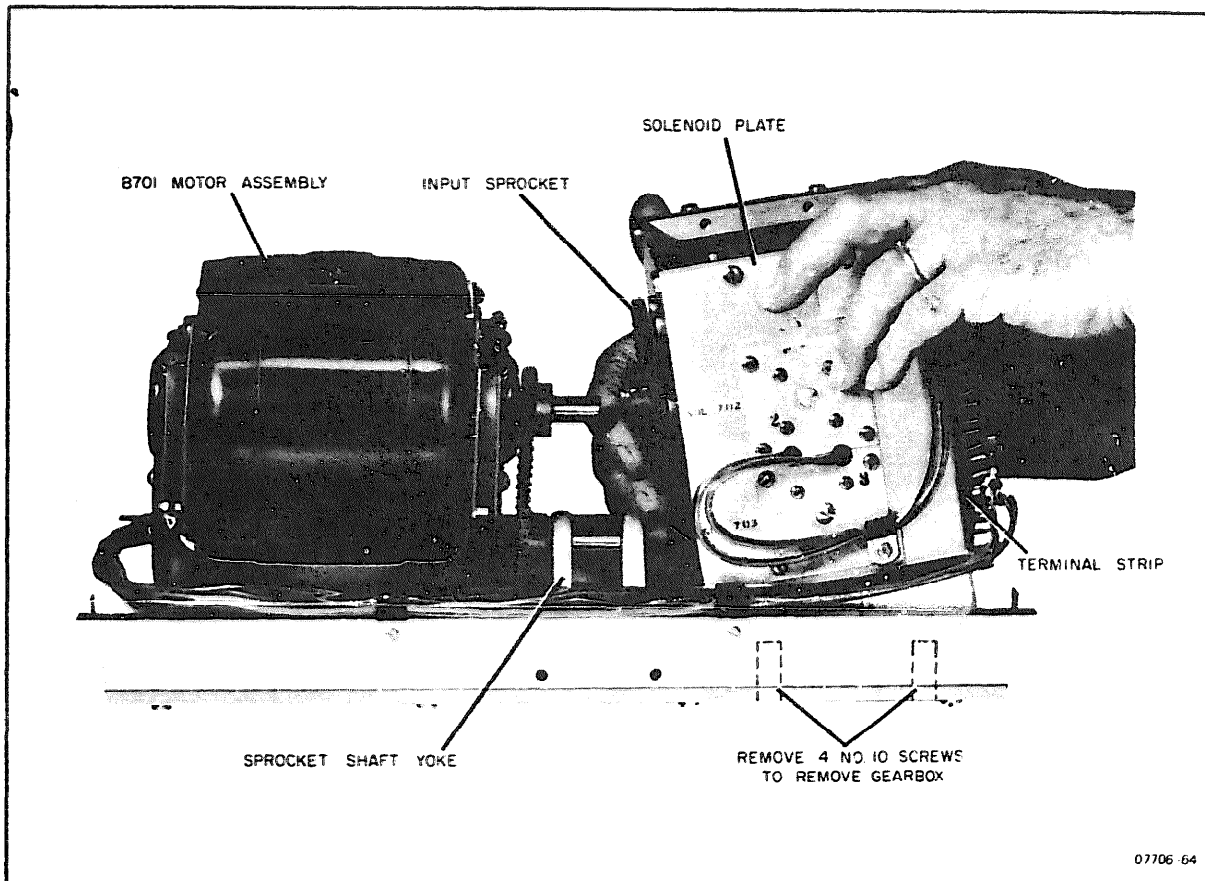

Figure 5-12. Removing Gear Box From Base Plate
- c. Remove the four screws at the bottom face of the base plate to remove the gear box from the assembly. Tip the gear box in towards the chain and sprocket assembly to disengage the chain from the yoke sprocket as indicated in Figure 5-12.
5-67. Lift the gear box from the motor assembly and place on the bench. Remove the four No. 10 sems screws from each solenoid plate (see Figure 5-12) and the cable clamp from the solenoid wires. Remove the solenoid plates (see Figure 5-13). since solenoids 1 and 4 fit snug over the shaft 9, ease the plate off slowly to prevent damaging the solenoid stop hinges. Remove the four shoulder locating screws holding front gear box side plate. (Figure 5-13) Remove the front gear box plate slowly. Jiggle slightly if it does not clear from the gear box easily.
5-77. The gear box should be given a running check before the solenoid plates are assembled. Install the gear box on the motor mounting plate using the four No. 10 screws (see Figure 5-12) and the procedures in Paragraph 5-86. Apply 115 Vac to the motor leads at the terminal strip. If the input sprocket is properly aligned and planes parallel, the gear box should run smoothly. If it chatters or runs irregularly, it usually is caused by misalignment of the yoke and sprockets.
5-85. Reassemble the gear box to the mounting plate with the four No. 10 screws (see Figure 5-12). Plug-in motor to drive the gear box. Energize each solenoid to test the clearance between stop and spring clutch sleeve by pushing on solenoid core screw, see Figure 5-13(b). Average finger pressure will change the clearance between stop and sleeve and indicate whether clearance is sufficient.
5-87. Install the gear box on the mounting plate as indicated in Figure 5-12. Place chain on input sprocket and tip the bottom of the gear box away from the motor so that the sprocket chain can be looped under the sprocket on the yoke. When the chain is in, the proper position, fasten gear box to the mounting plate.